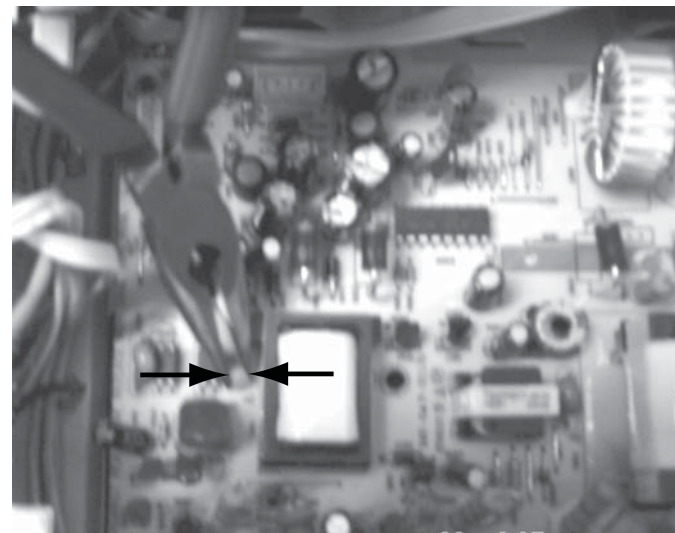

Figure 8
- 2) Using a noise plier to press the rubber space tightly, then, you can take the power board out from the main unit as shown in figure 8